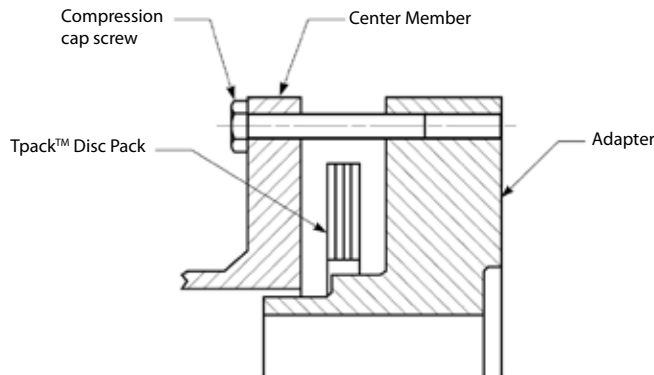

Figure 10 - Compression positioning.
9.3. Use the compression cap screws (provided) as defined in Table 5 to compress the center member assembly by inserting them through the holes in the flanges of the center spool and threading them into the adapter tapped holes as shown in Figure 10.